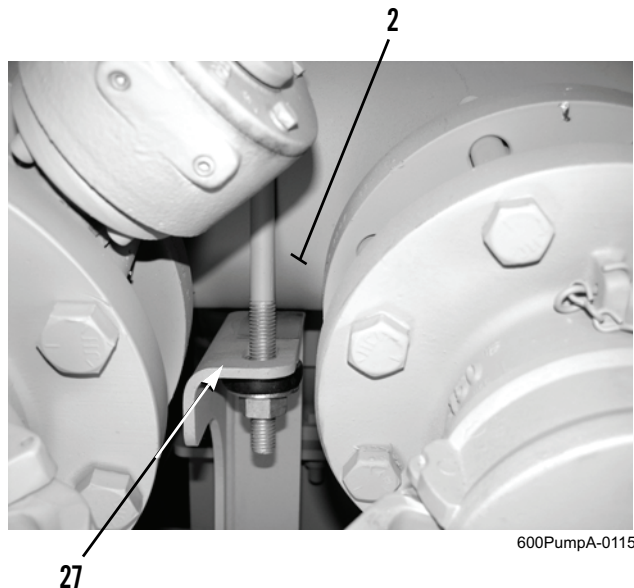
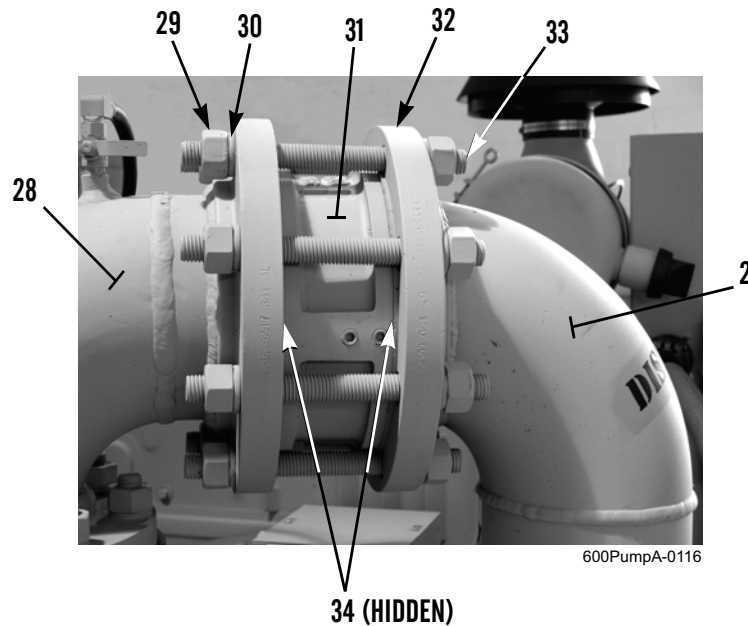

Figure 10. Discharge Manifold on Mounting Brackets.
Figure 11. Discharge Elbow, Check Valve, and Discharge Manifold.
4. If removed, install two rubber strips to two welded mounting brackets (Figure 10, Item 27), using adhesive.
5. Attach suitable lifting equipment to discharge manifold (Figure 10, Item 2) and support discharge manifold.
6. Lift discharge manifold (Figure 11, Item 2) and position on two welded mounting brackets (Figure 10, Item 27). Position flange (Figure 11, Item 32) of discharge manifold close to 90-degree discharge elbow (Figure 11, Item 28), while leaving room for placement of check valve (Figure 11, Item 31) and two new gaskets (Figure 11, Item 34).
7. Loosely install threaded studs (Figure 11, Item 33) in 5 o'clock and 7 o'clock positions, through flange (Figure 11, Item 32) of discharge manifold (Figure 11, Item 2) and flange of 90-degree discharge elbow (Figure 11, Item 28). Install new lockwasher (Figure 11, Item 30) and nut (Figure 11, Item 29) on end of threaded stud closest to 90-degree discharge elbow.
8. Position check valve (Figure 11, Item 31) and two new gaskets (Figure 11, Item 34) between flange (Figure 11, Item 32) of discharge manifold (Figure 11, Item 2) and flange of 90-degree discharge elbow (Figure 11, Item 28).
9. Remove lifting equipment from discharge manifold (Figure 11, Item 2).
10. Install new lockwasher (Figure 11, Item 30) and nut (Figure 11, Item 29) on other end of two threaded studs (Figure 11, Item 33). Tighten only enough to hold components in place.
11. Install six remaining threaded studs (Figure 11, Item 33). Install new lockwasher (Figure 11, Item 30) and nut (Figure 11, Item 29) on each end of six studs. Tighten all 16 nuts to 60 lb-ft (81 Nm).